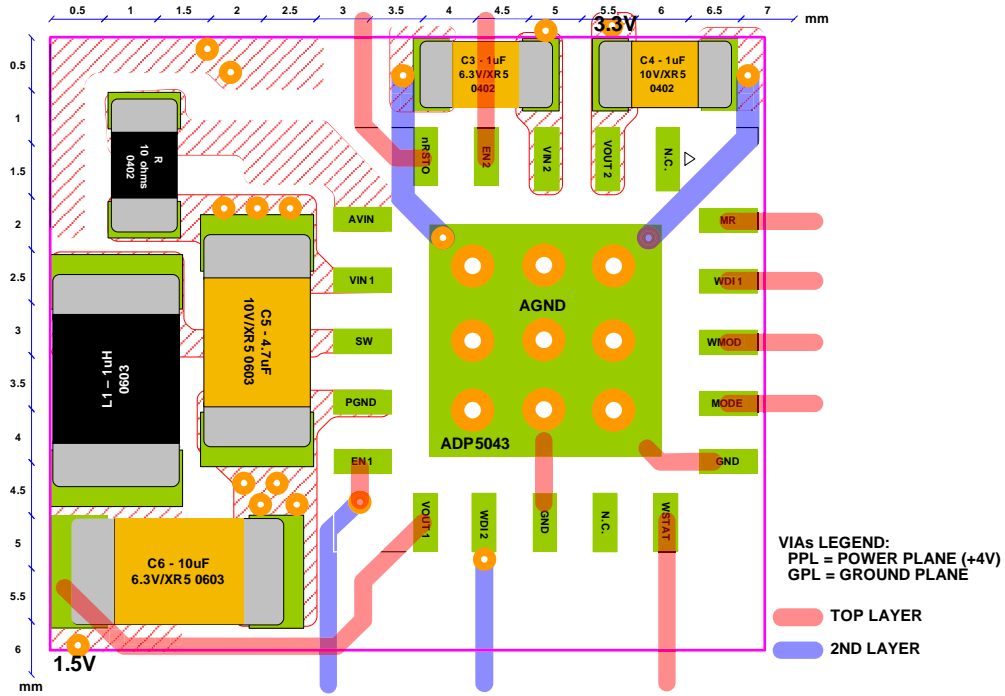

Figure 55. Layout
The typical  $\theta_{JA}$  value for the 20-lead, 4 mm × 4 mm LFCSP is 38°C/W, see Table 7. A very important factor to consider is that  $\theta_{JA}$  is based on a four-layer 4" × 3", 2.5 oz copper, as per Jecdec standard, and real applications may use different sizes and layers. It is important to maximize the copper used to remove the heat from the device, and copper exposed to air dissipates heat better than copper used in the inner layers. The thermal pad (TP) should be connected to the ground plane with several vias as shown in Figure 55.